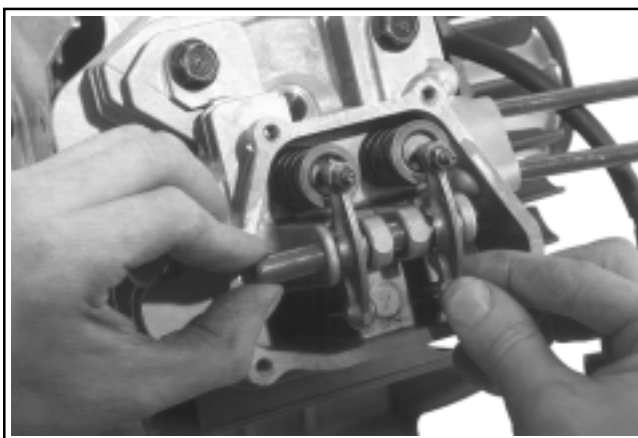

Figure 11-71. CS8.5 (spec. 92xxxx), CS10, CS12. Assembling Rocker Arms and Pivot Shaft.
**CS8.5 (spec. 92xxxx), CS10, CS12:** Install the rocker arms and adjuster assemblies into their original locations. Seat the push rods into the cupped end of the rocker arms. Oil the rocker arm shaft and install it through the cylinder head supports and rocker arms. Center the rocker arm shaft so it does not protrude out either side. See Figures 11-71 and 11-72.